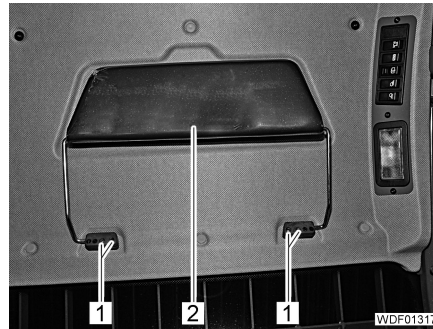

Fig. 489 Sun visor
- Unscrew the 4 screws (Fig. 489,1).
- Remove the sun visor (Fig. 489,2).
- Position the sun visor (Fig. 489,2).
- Screw in and tighten the 4 screws (Fig. 489,1).